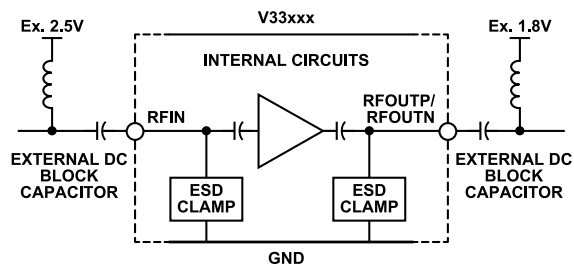

Figure 100. Simplified RF Input and Output Port Structure
The ESD clamps are located right after input ports and before the output port (see Figure 100). When a DC voltage greater than or equal to 1.0 V is applied as common-mode, there is a risk of latching the silicon controlled rectifier (SCR) clamps in the ESD protection block with a single spike. Even with a DC voltage less than 1 V, intermodulation (IM) performance of the part may be degraded. An external DC block capacitor for AC-coupled is always recommended.